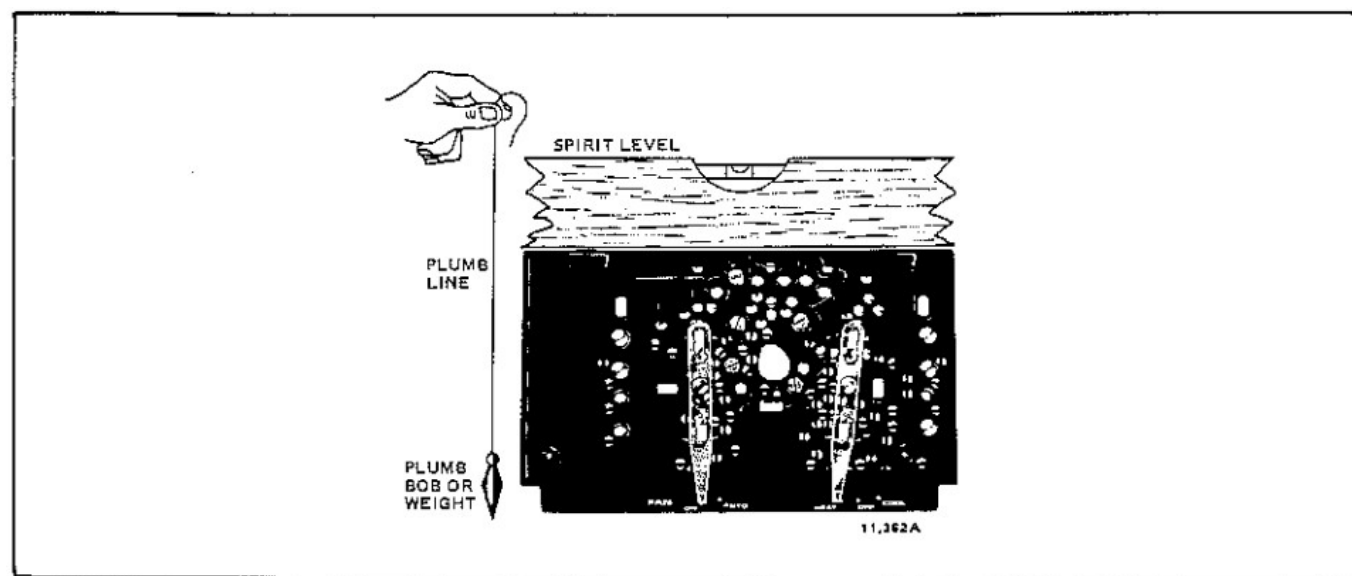

Fig. 3—Leveling methods for wallplate or subbase.
- Carefully level the wallplate or subbase (Fig. 3) and firmly tighten screws.